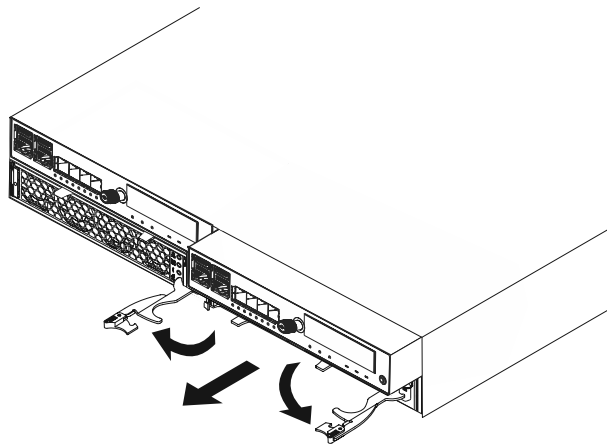

Figure 13. Removing a node canister
1. If the canister is already installed in the enclosure, remove it as shown in Figure 13.